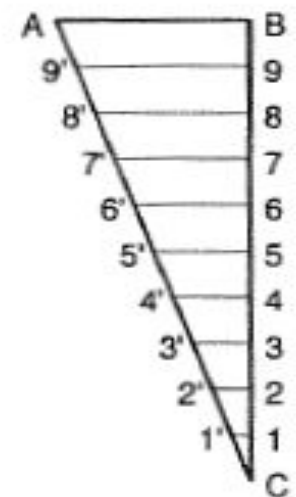

FIG. 4-6
**Principle of diagonal scale:** To obtain divisions of a given short line  $AB$  in multiples of  $\frac{1}{10}$  its length, e.g.  $0.1 AB$ ,  $0.2 AB$ ,  $0.3 AB$  etc. (fig. 4-6).